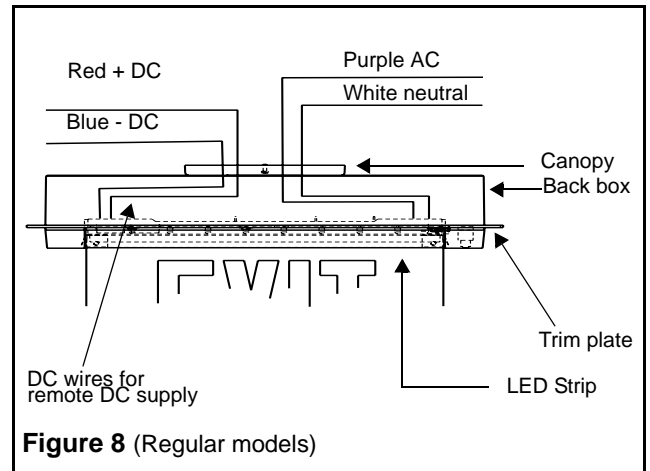
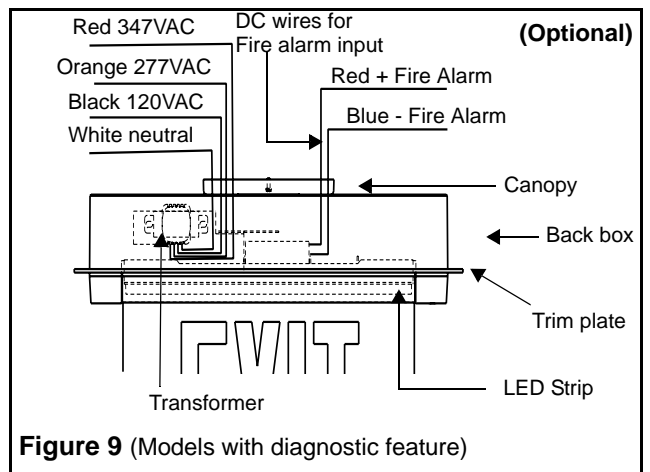

Figure 8 (Regular models)
Figure 9 (Models with diagnostic feature)
- a. Make the proper connections. Our system can accept input voltages of 120 VAC to 347 VAC. For regular models connect the purple (hot) and white (common) leads to the building utility (Figure 8). For models with diagnostic feature connect the white (common), black (120 VAC) or red (347 VAC) leads to the building utility (Figure 9).